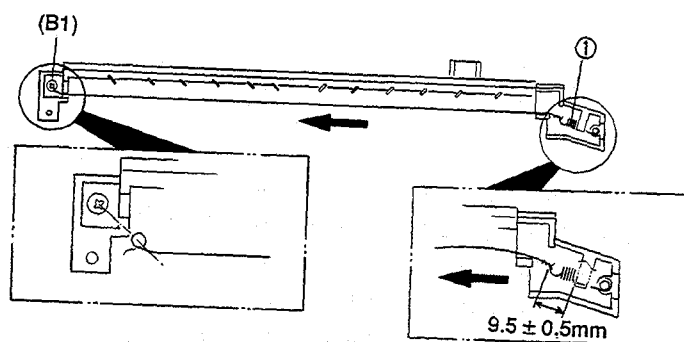

Fig. 8-17
- Pull the corona wire until the length of spring ① becomes 9.5 ± 0.5 mm as shown in Fig. 8-17. Then tighten screw (B1).